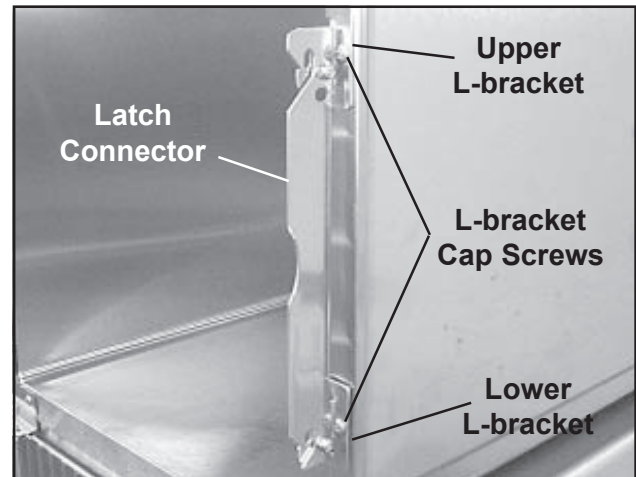

Figure 21. L-bracket Adjustment (single-door cages)
2. Slightly loosen the cap screws on the upper and lower L-brackets (Figure 21).